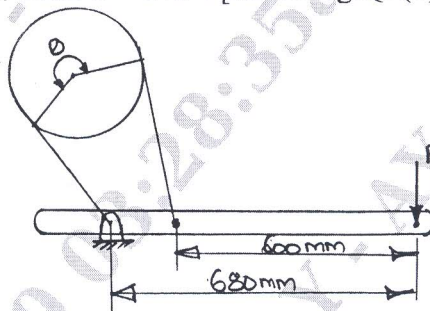

Fig.Q8(b)
b. A simple band brake is required to transmit a torque of 100 kg-m. The brake drum diameter is 400 mm, $\mu = 0.25$. Find the effort required to obtain braking in clock-wise direction. Design the band and the lever. Take $\theta = 270^\circ$. [Refer Fig.Q8(b)] (08 Marks)